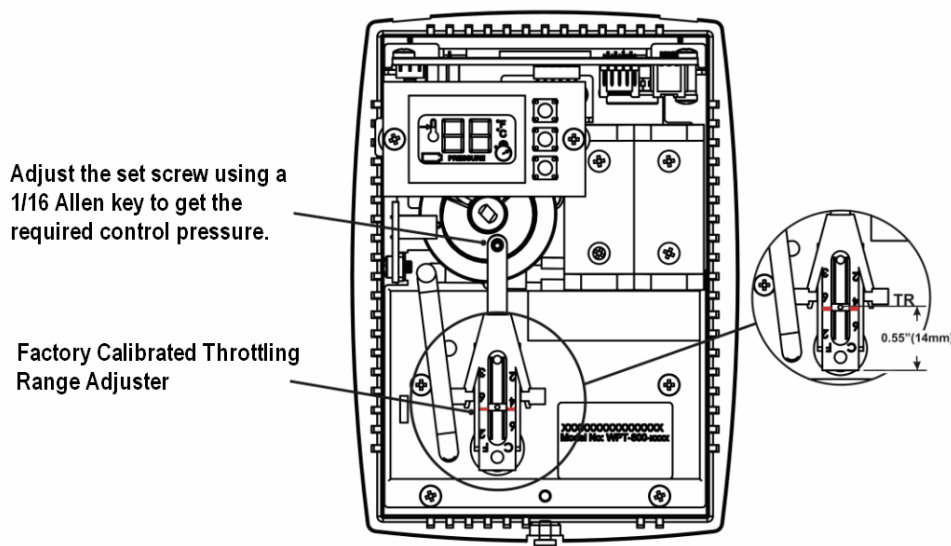

Figure 14. WPT Calibration
NOTE: The black throttling range adjuster has been factory set to the location marked on the lever as shown in Figure 14. The factory setting provides a Throttling Range (TR) of 4°F. This TR adjuster **MUST NOT BE MOVED** in order to ensure proper operation and accuracy of the WPT.
3. Use a 1/16" hex Allen wrench and very carefully turn the calibration set screw on the thermostat lever, shown in Figure 14, until the branch pressure is equal to the desired control point. Use extreme caution not to allow the lever to rotate sideways while adjusting the setscrew. Damage to the bi-metallic spring can result if the end of the lever is allowed to move left or right by more than 1/16".